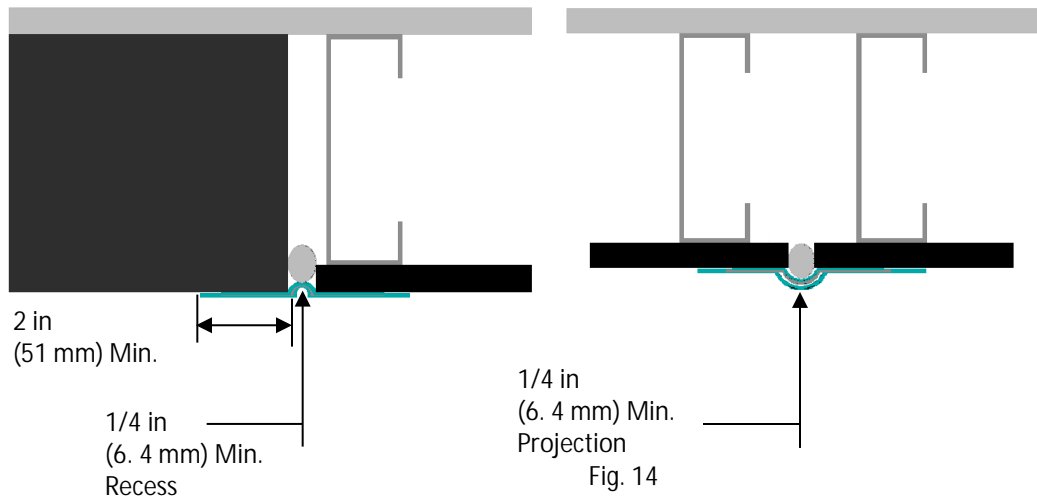

Fig. 14
- a. The width of the AquaFlash Mesh must overlap each side of the joint a minimum of 2 in (51 mm) - Figure 14.